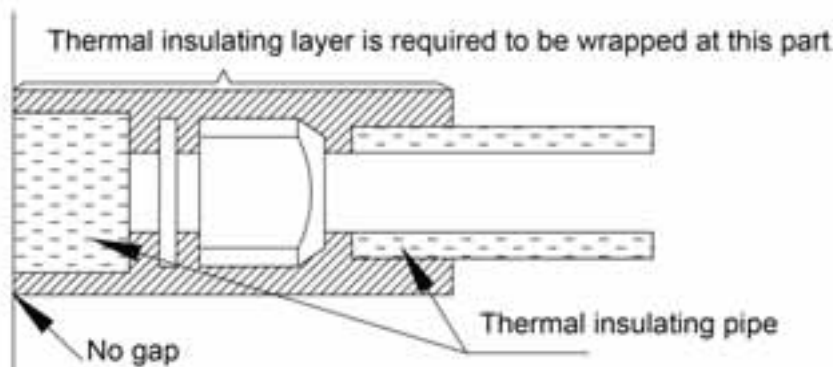

Fig. 4.17
- 3) Joints of indoor and outdoor unit should be wrapped with insulating material leaving no gap. See Fig. 4.17.